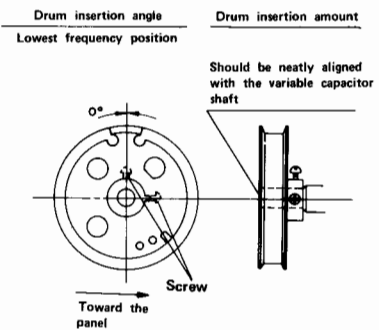

Figure 3-1
2. Insert the drum into the variable capacitor shaft in a such a way as to provide no inserting angle deviation. (See Fig. 3-1.)